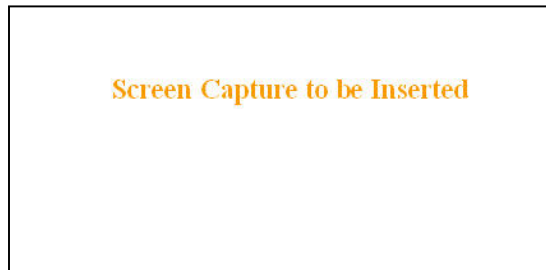

Figure 53 – Package Control
Snapshot in Figure 53 shows a “PASS” result indication. If an upgrade problem arises and persists, click the “Package Control” once more and have the resulting indications handy if contacting Dataradio System engineering.
- d) In the left pane, click on **Maintenance**, then on **Package Control**. Wait a few moments for the results to display. Figure 53 shows a "Pass" result indication.